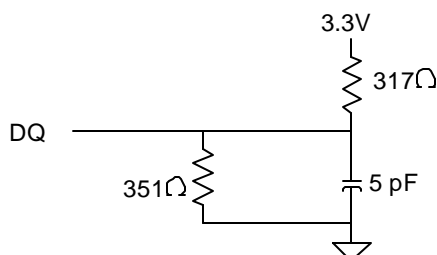

Fig.2 OUTPUT LOAD EQUIVALENT
6. Output loading is specified with $C_L=5 \text{ pF}$ as in Fig.2.